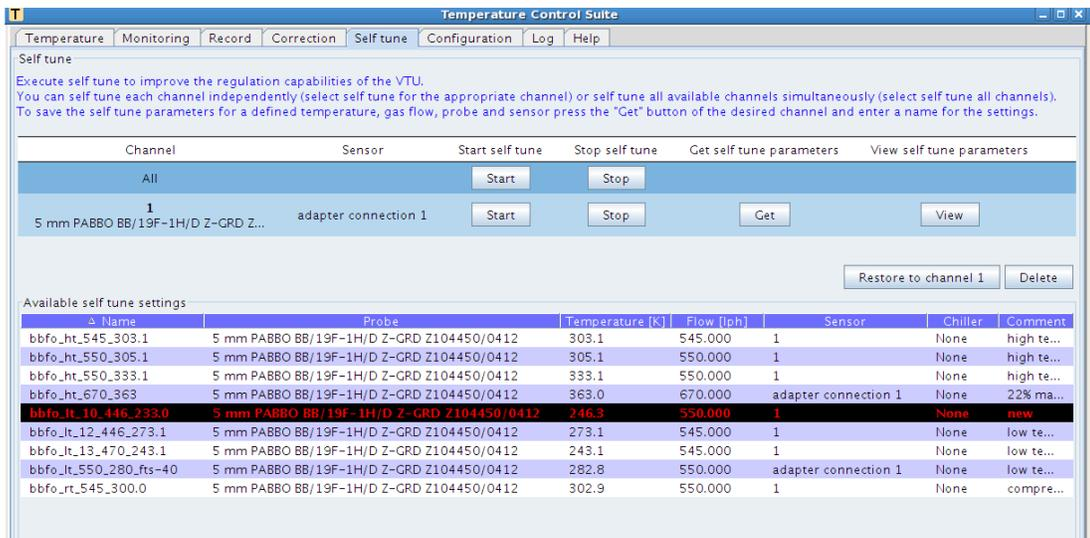

Figure 19: Selection of Low Temperature Self Tune Parameter Settings
- Click on **Self Tune** Tab of the Temperature Control Suite, select an appropriate self-tune parameter Settings. In this example, the file “*bbfo_lt_10_446_230*” is selected as shown in Figure 19. Click on **Restore to Channel 1** to load the parameters.
3. Click on **Self Tune** Tab of the Temperature Control Suite, select the self-tune setting file of “*bbfo_rt_545_300.0*” (see Figure 19), then click on **Restore to Channel 1** button to load the self-tune parameter for room temperature operation.